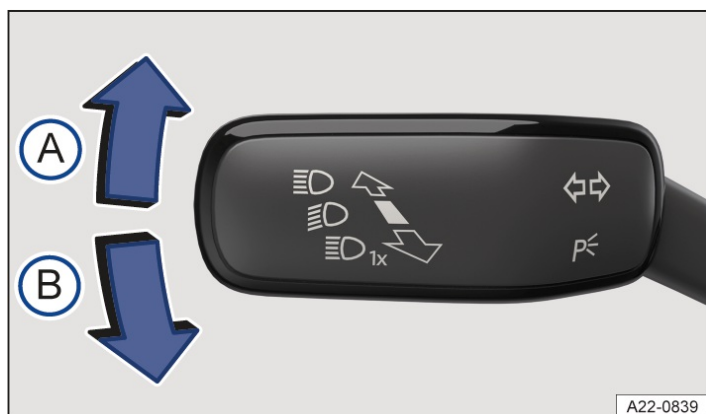

Fig. 1 On the left-hand side of the steering column: turn signal and main beam lever.
2. Move the lever from the centre position to the desired position → Fig. 1.